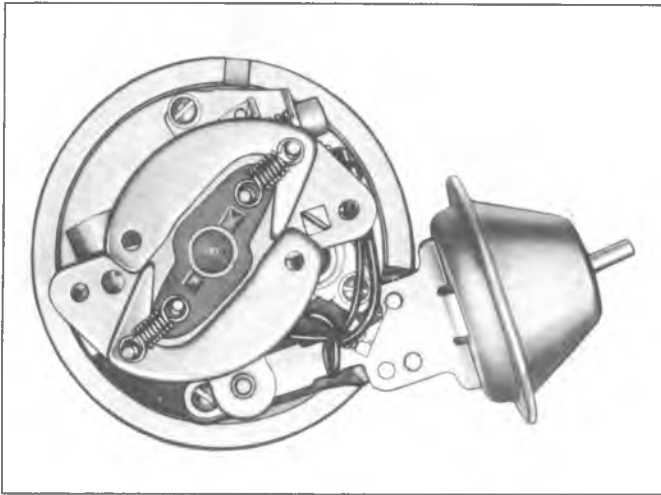

Fig. 12i—Advance Weights Installed
2. Lubricate and slide weight cam over mainshaft and install weights and spring (fig. 12i).